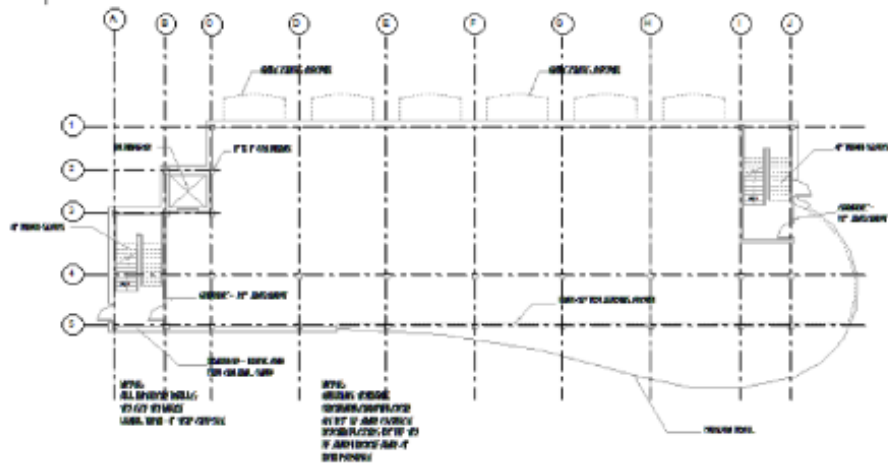

Figure 3–34
9. Check the lengths of all grid lines. Modify the length by dragging the ends if required. The final drawing is shown in Figure 3–34.